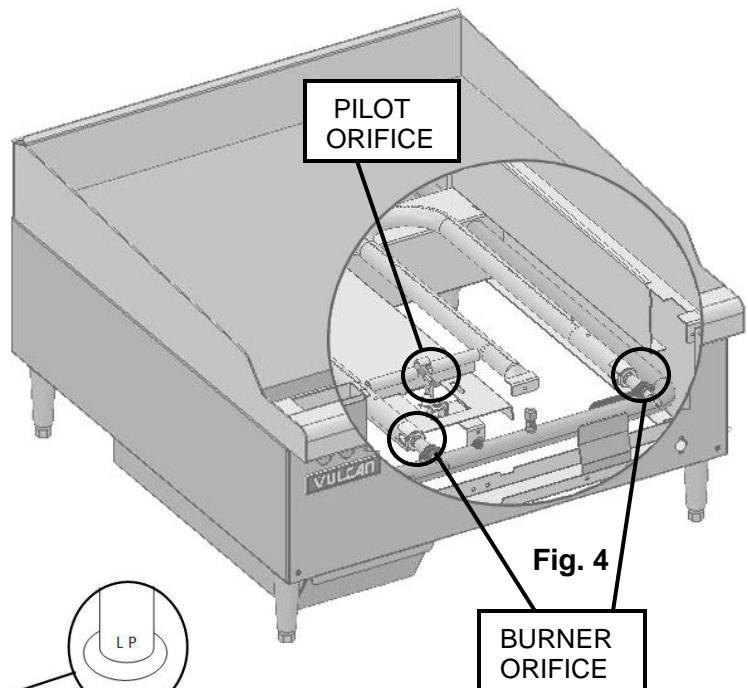

Fig. 4
1. Remove all natural gas burner orifices and install the provided propane burner orifices. See Fig. 4
2. Remove all pilot orifices and install the provided propane pilot orifices. See Fig 4.